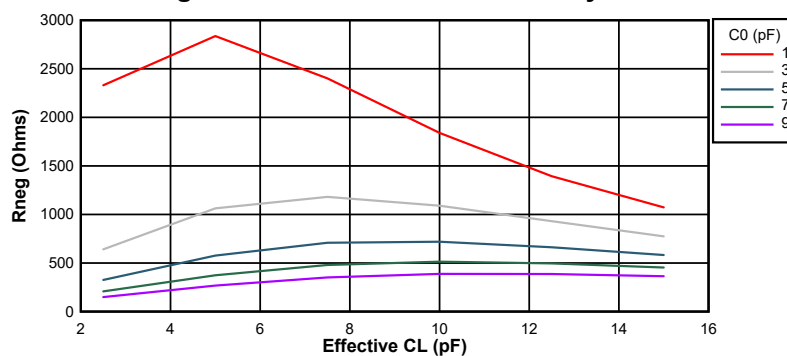
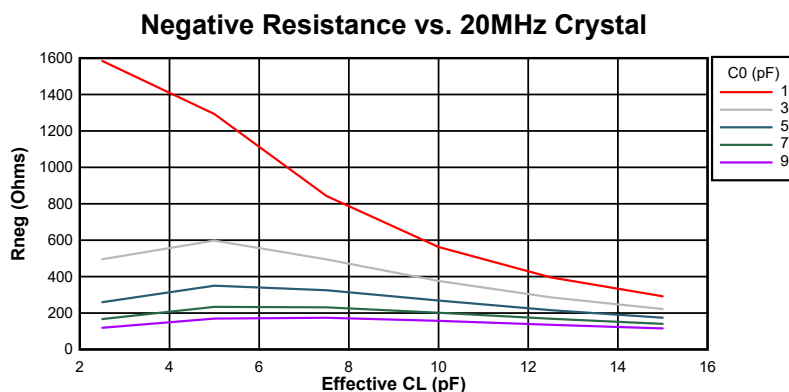

Figure 6-19. Negative Resistance Variation at 10 MHz
Figure 6-20. Negative Resistance Variation at 20 MHz
Figure 6-19 and Figure 6-20 show the variation between negative resistance and the crystal components for this device. As can be seen from the graphs, the crystal shunt capacitance (C0) and effective load capacitance (CL) greatly influence the negative resistance of the electrical oscillator. Note that these are typical graphs; so, refer to Table 6-6 for minimum and maximum values for design considerations.